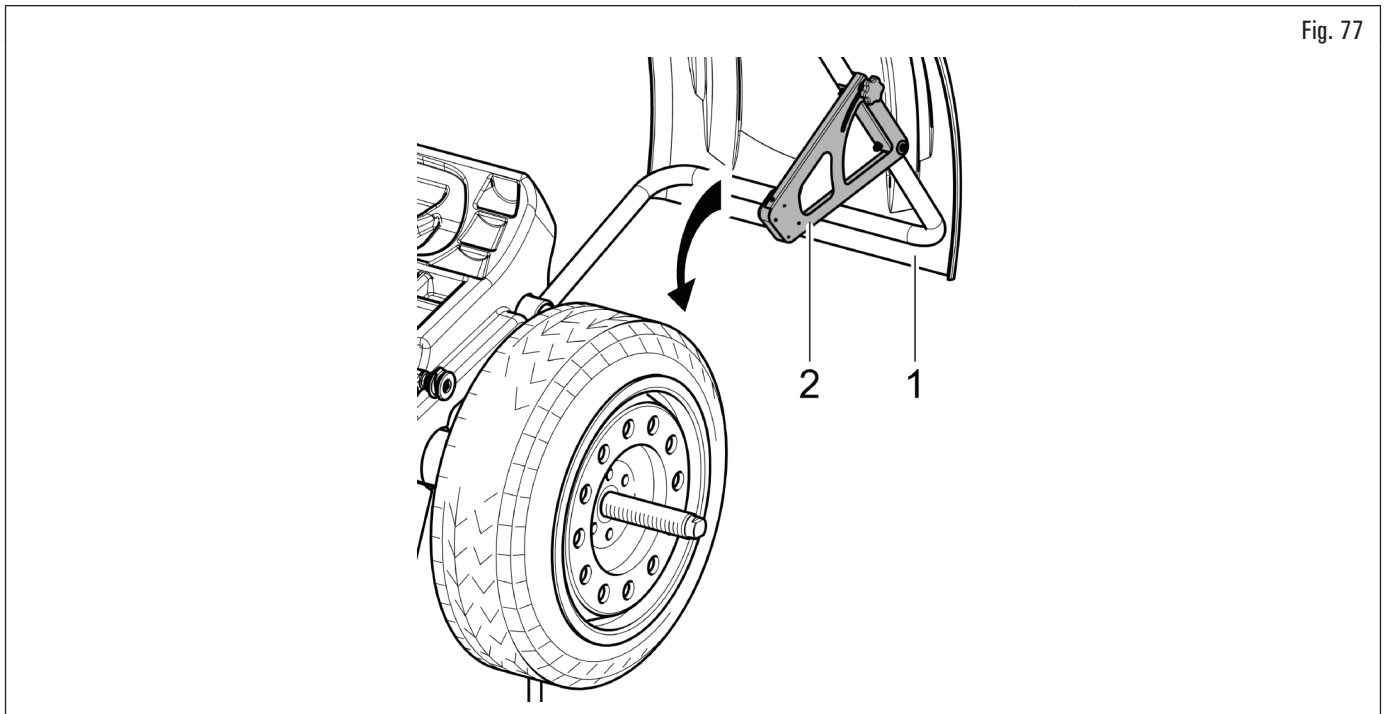

Fig. 77
In case of automatic width measuring device (Fig. 77 ref. 2), it is not necessary to enter the size of the wheel before spinning.
Each time that wheel protection guard (Fig. 77 Ref. 1) is closed, the automatic width measuring device (Fig. 77 Ref. 2) measures the width of the wheel that is mounted on the chuck and performs the spin. the relevant value is stored automatically in the fields prepared of the chosen balancing program.